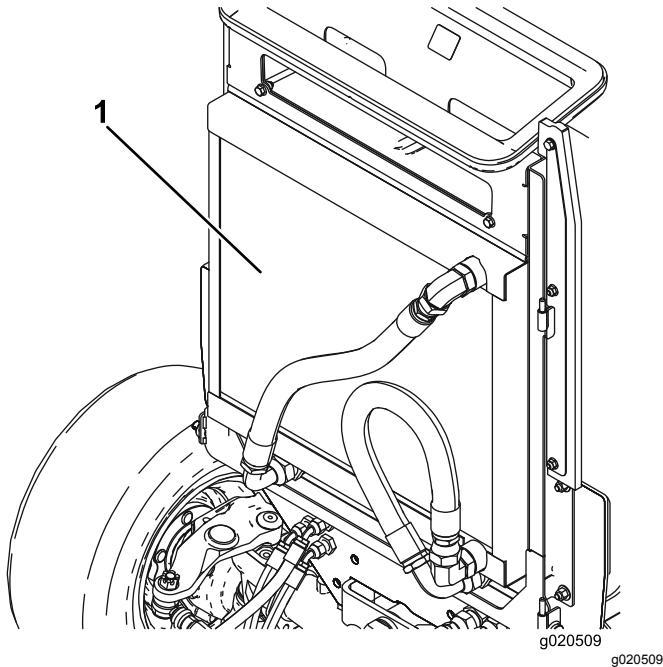

Figure 50
2. Clean both sides of the oil cooler/radiator area (Figure 50) thoroughly with compressed air. Start from the front and blow the debris out towards the back. Then clean from the back side and blow towards the front. Repeat procedure several times until all chaff and debris is removed.